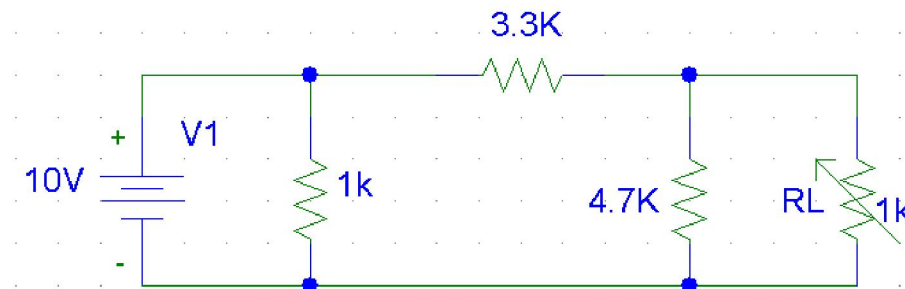

FIG.1: Original Circuit
1. Arrange the original circuit as shown in figure 1. Apply 10V dc from dc power supply.